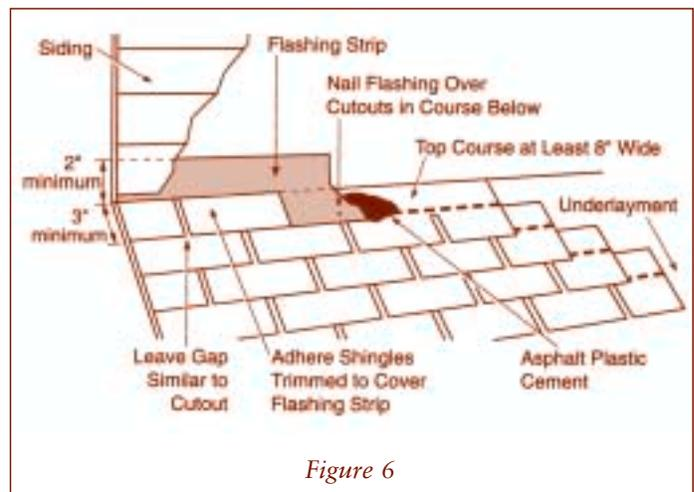

Figure 6
- **Flashing at vertical "front" walls** - (See figure 6) The flashing should be nailed every 12" and be lapped 6", without a nail in the lap to allow for some movement. Although some shingle manufacturers recommend the use of roof cement under the flashing, in my experience most roofers